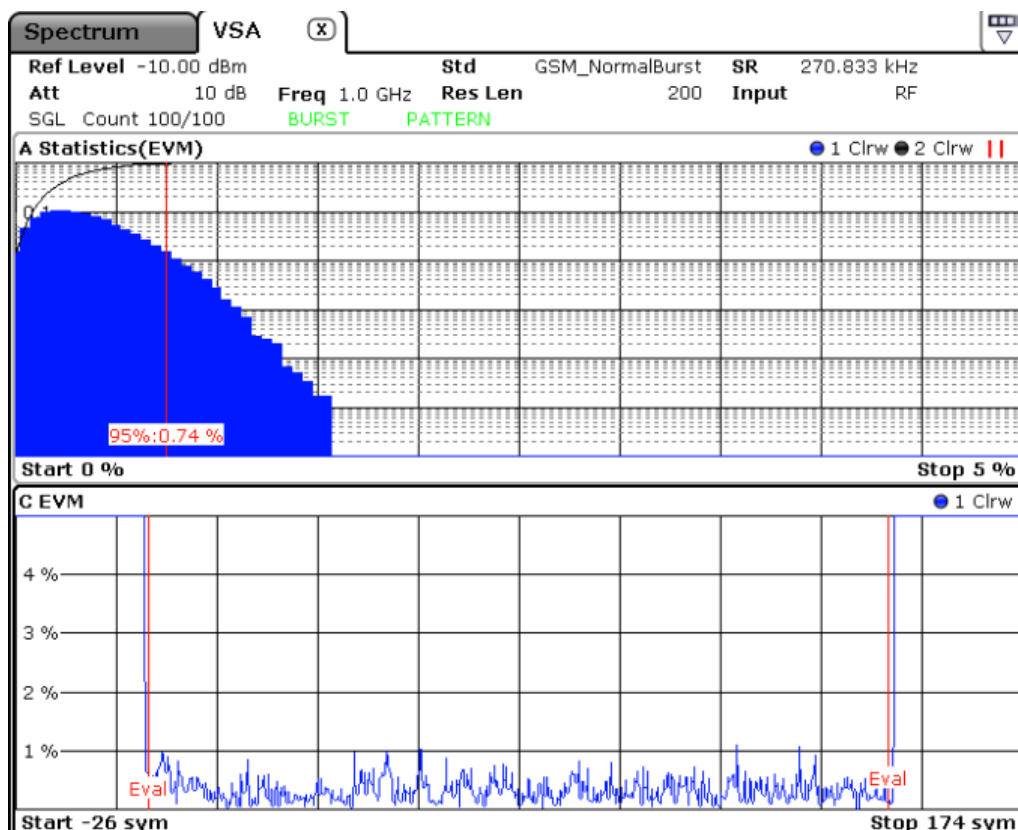

Figure 3-21: Error vector magnitude (bottom), EVM distribution (top)
The Figure 3-21 shows an example of a statistical evaluation. The lower window (C) shows the basic diagram (EVM), while the upper window (A) shows the associated distribution of the EVM.